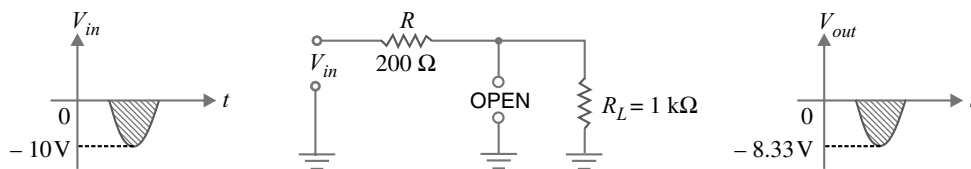

Fig. 16.40
**Negative half-cycle.** During the negative half-cycle of the input a.c. signal, the diode is reverse biased and it conducts no current. Therefore, the diode will behave as an open as shown in Fig. 16.40.